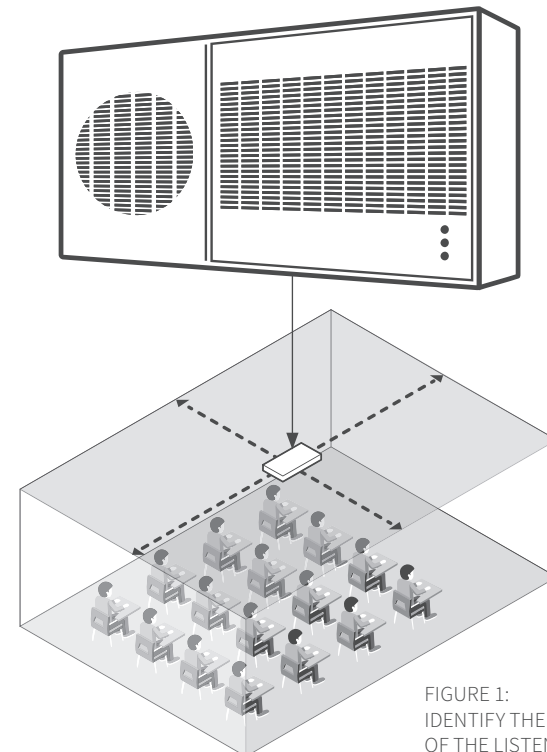

FIGURE 1:
1. Identify the center of the listening area of the classroom for optimum location (Figure 1).